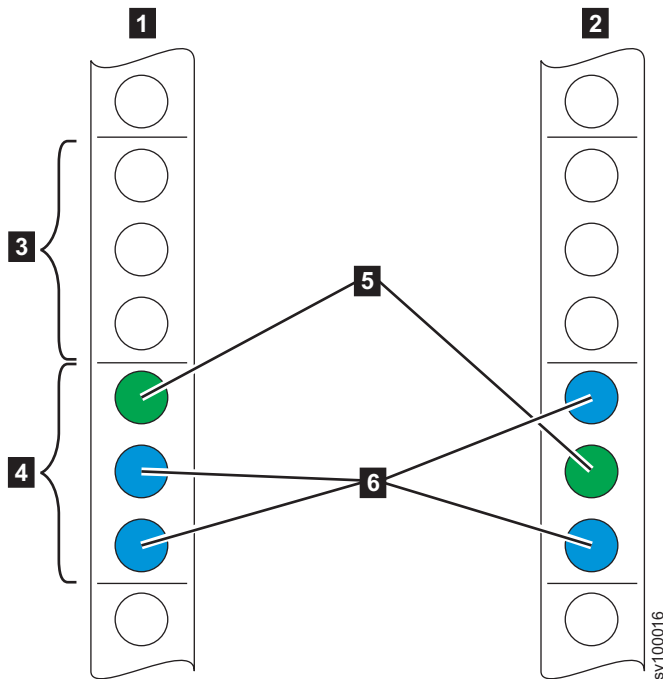

Figure 40. Identifying rack space
2. Select an available 2U space (depending on the node you are installing) in your rack to install your node, as shown in Figure 40.